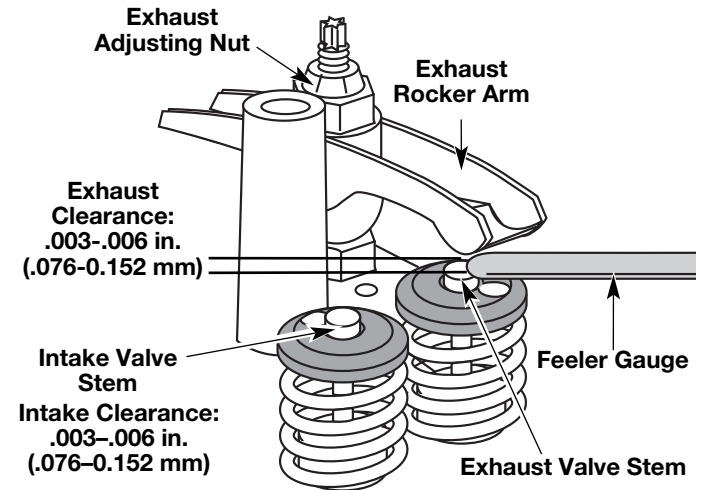

Fig. 67
Use a standard automotive feeler gauge at .005 (0.127mm). The feeler gauge should slide between the rocker arm and valve stem with a slight amount of resistance, without binding. Figure 67 shows how to measure the clearance.
- Turn the adjusting nut using a 5/16 inch (8 mm) wrench or nut driver (Fig. 67).